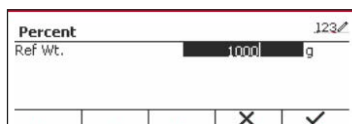

Figure 69
- Enter value using keypad. (See Figure 69)